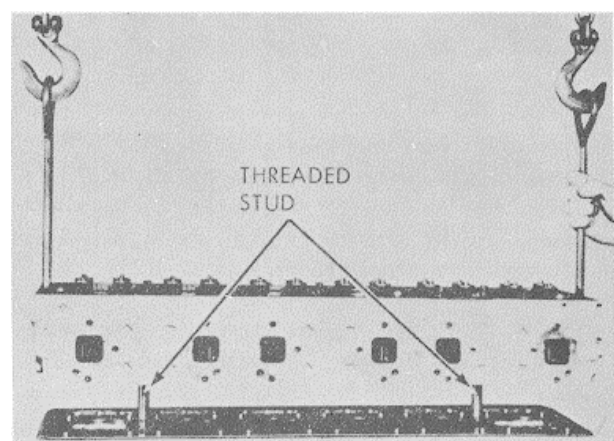

Figure 3-132. Installing cylinder head
(6) Install one stud (threaded at one end) into each end of cylinder block (or closer together, if desired) (fig. 3-132).
(7) Attach ST-756 Lifting Fixture to cylinder head and lift over cylinder block with suitable hoist carefully lower head onto cylinder block, using the two studs as guides, figure 3-132.
(8) Lubricate cylinder head capscrews with an anti-seize compound. Install short capscrews (with hardened washers) into cylinder head and block on exhaust side of head and tighten to 25 ft.-lb. to hold head securely during injection timing.